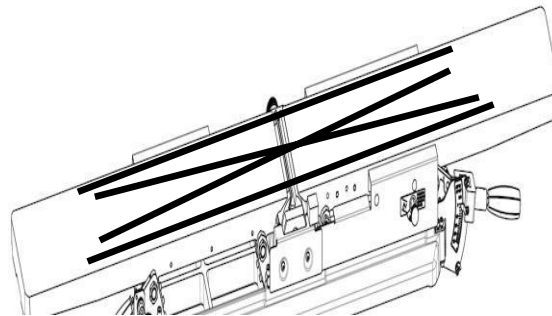

Figure 28: Checking Bed Alignment
STEP 3: Place straight edge in position shown in **FIG. 28**.